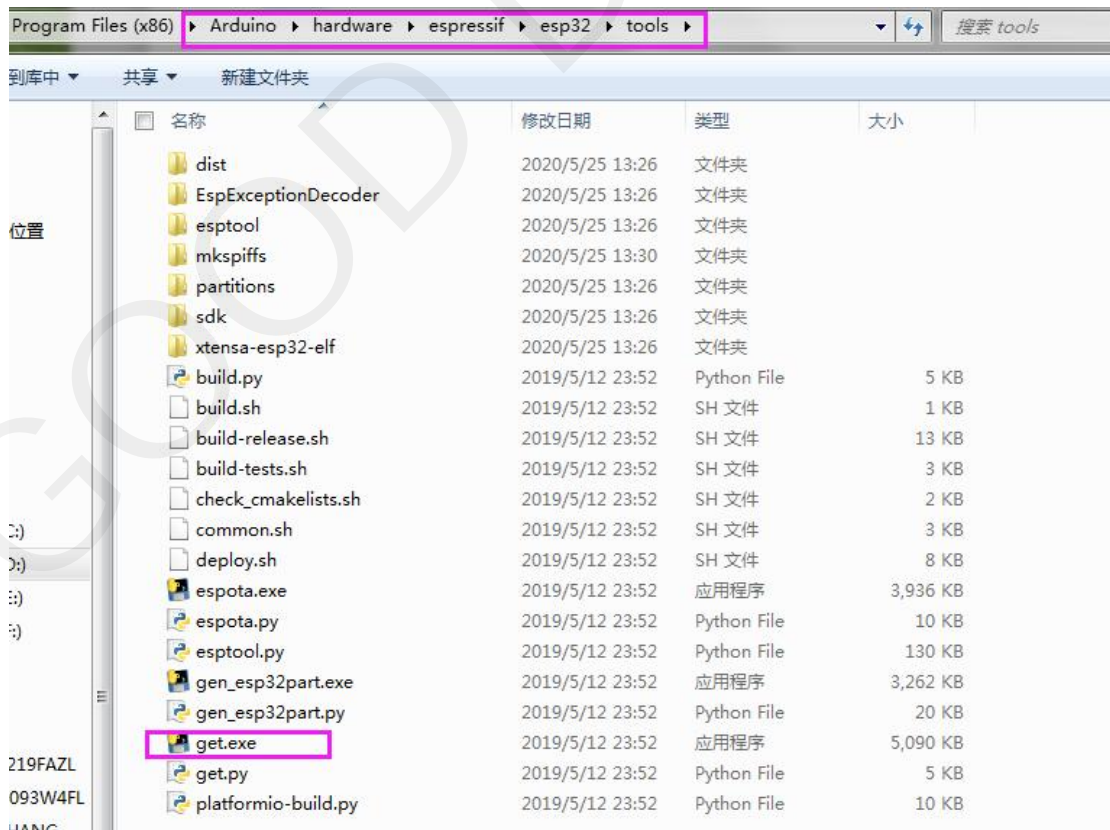

Figure 5 Run get.exe
- 4) Run the program file get.exe in esp32/tools(you must have installed the python plug-in), as shown in Figure 5.